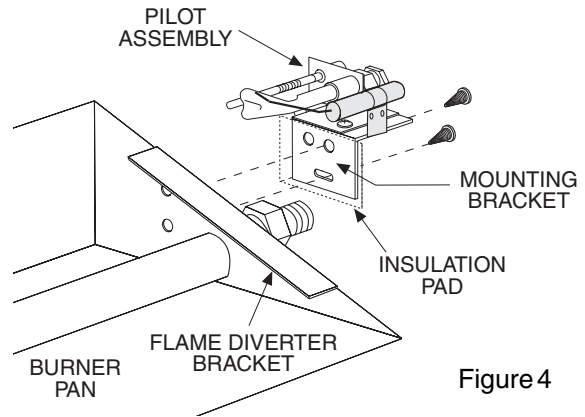

Figure 4
- Attach the mounting bracket to the pilot assembly (Item 3) with the screws provided. (Note: bracket and pilot assembly are shown attached in Figure 4)